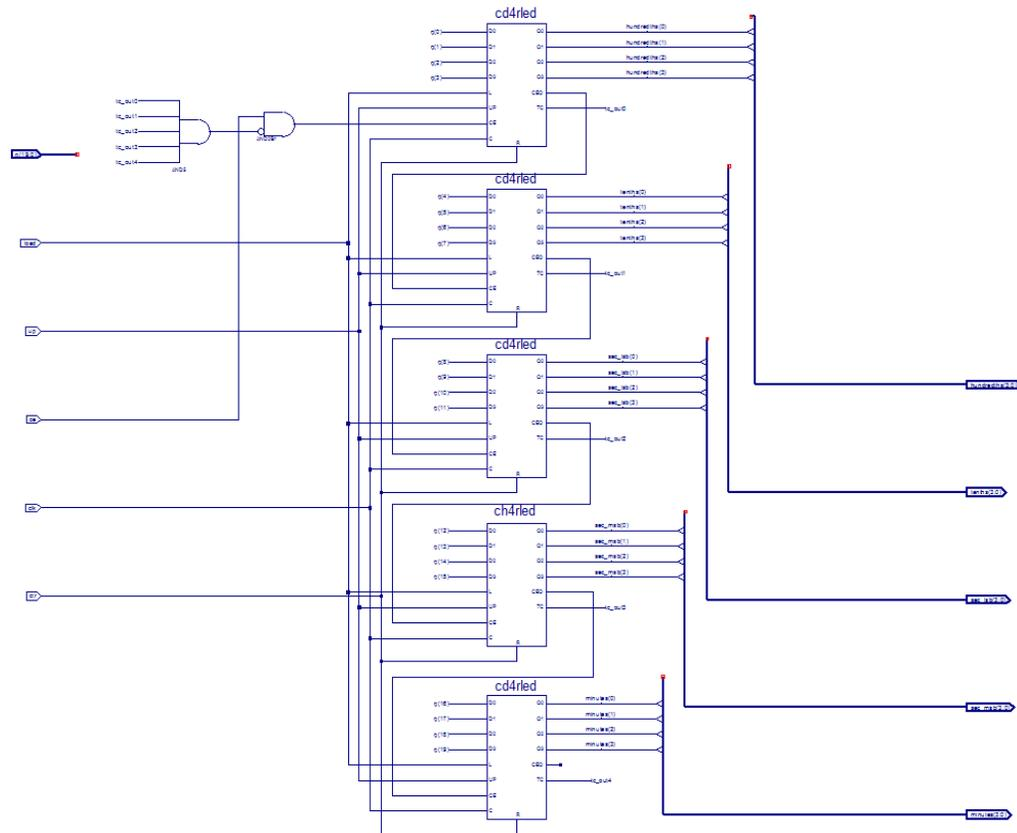

Figure 3-15: Completed `time_cnt` Schematic
8. Compare your `time_cnt` schematic with Figure 3-15 to ensure that all connections are made properly.
5. Click successively on each of the nets connected to data inputs, starting from the top so that the net named `q(0)` is attached to the D0 pin of the top counter and the net named `q(19)` is attached to the D3 pin of the bottom counter. Refer to Figure 3-15.